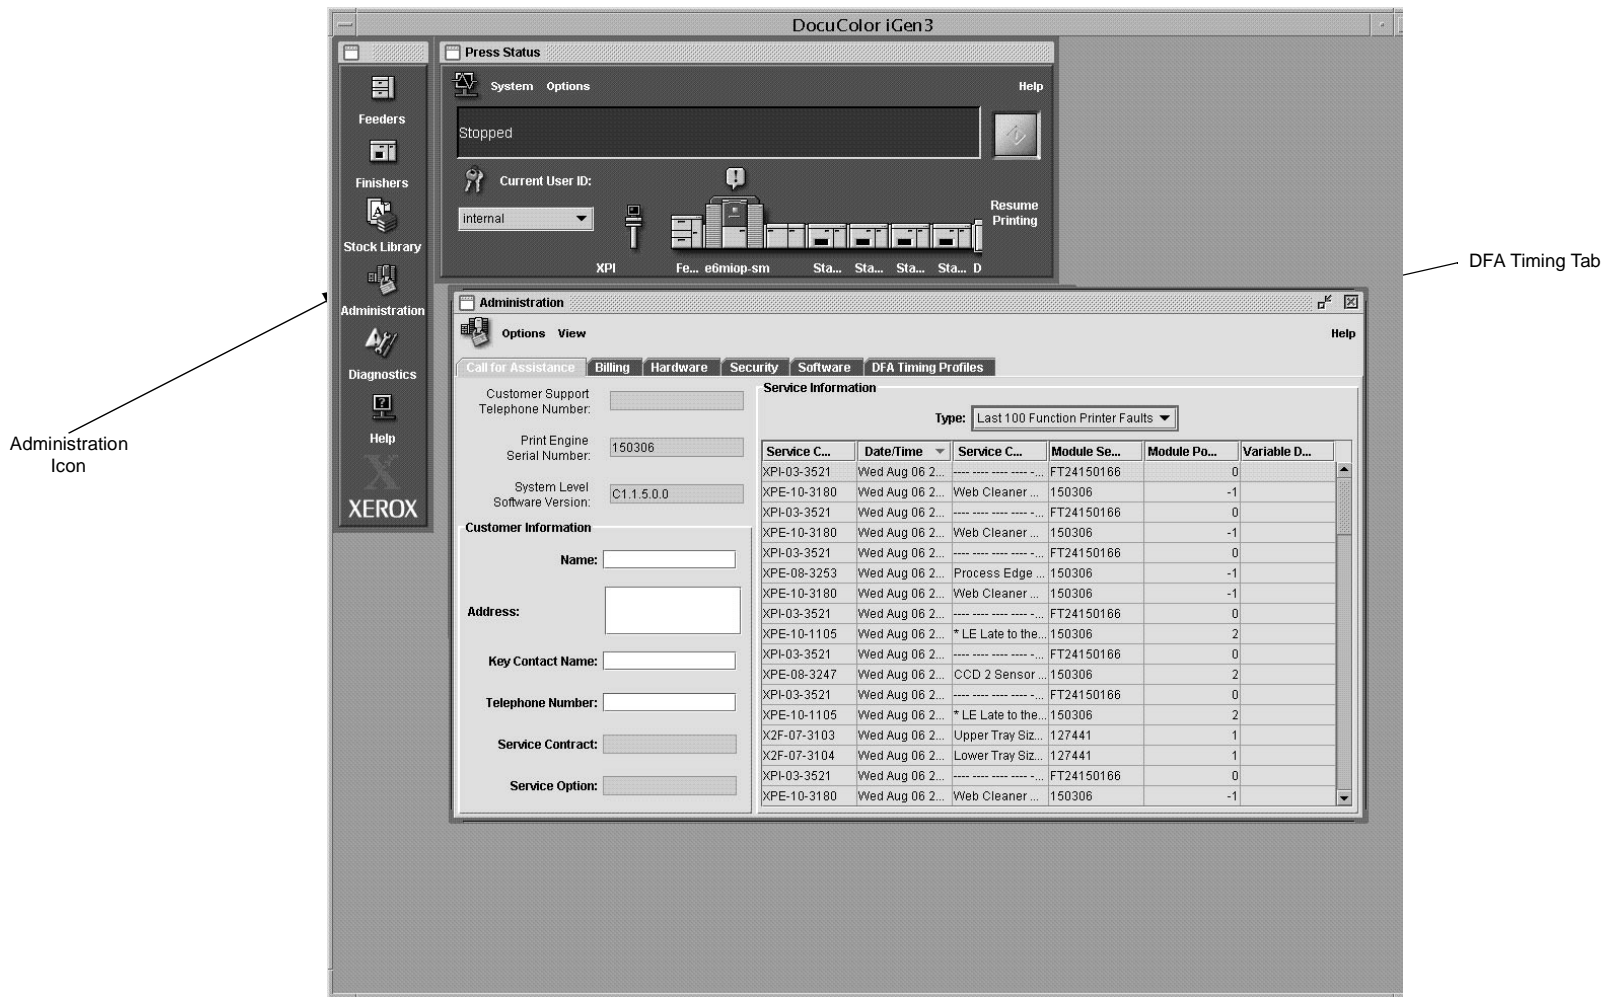
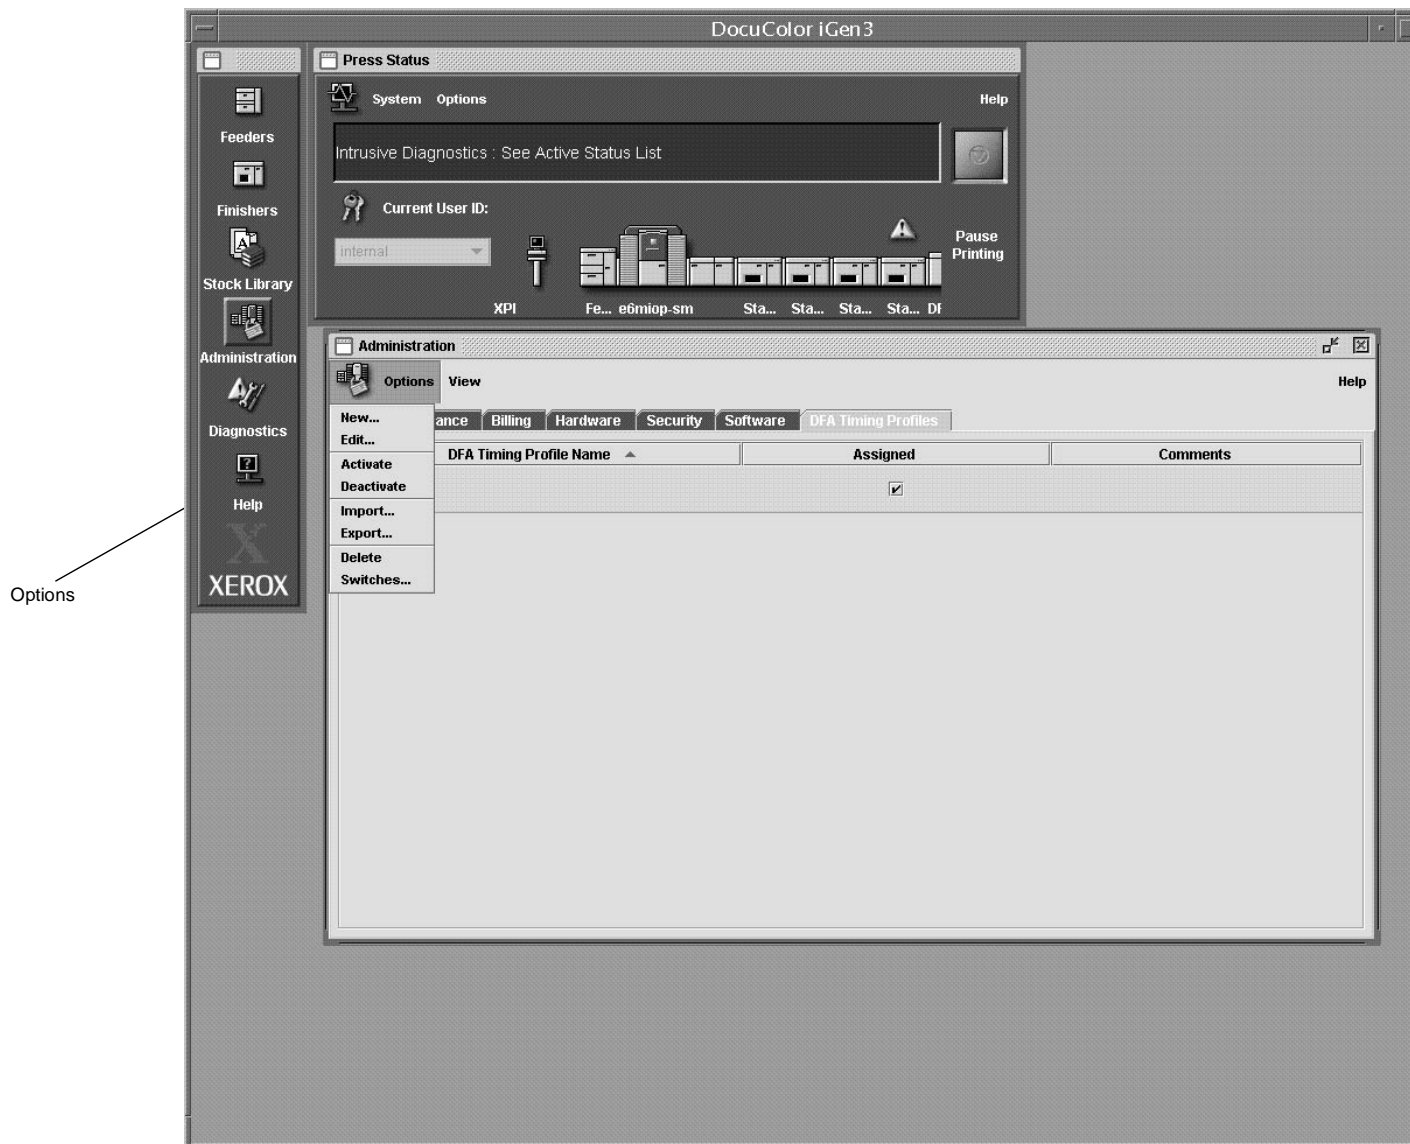

Figure 6-58 The Administration Window
Figure 6-59 The Dfa Timings Profile Tab
3. Select the **Administration** icon. This will open the **Administration** window, as shown in Figure 6-58.
4. In the Administration window, select the DFA Timing Profiles tab, as shown in Figure 6-58. The DFA Timings Profiles tab will be displayed, as shown in Figure 6-59.